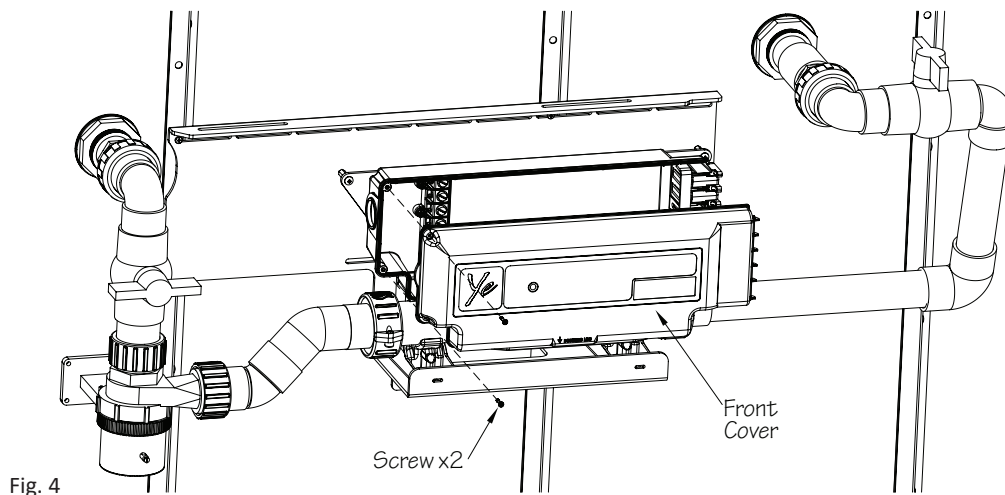

Fig. 4
4. Remove the front cover of the Gecko Heater-Controller by removing the two screws (Fig. 4).